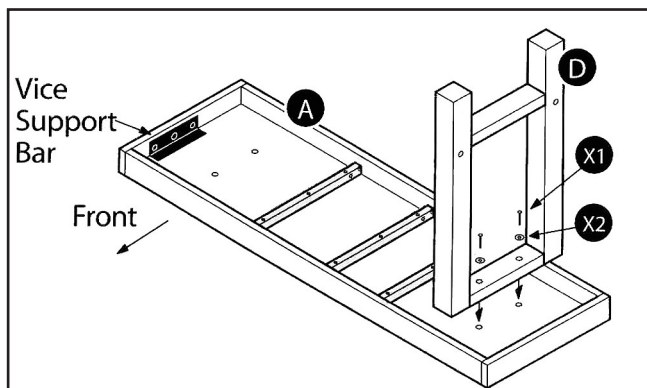

Figure 3. Leg installation.
- Position the workbench top "A" so the vise support bar is to your left. Using the 4mm hex wrench, install leg "D" with two (X1) wood screws, and two (X2) washers (**Figure 3**). Do not fully tighten at this time.